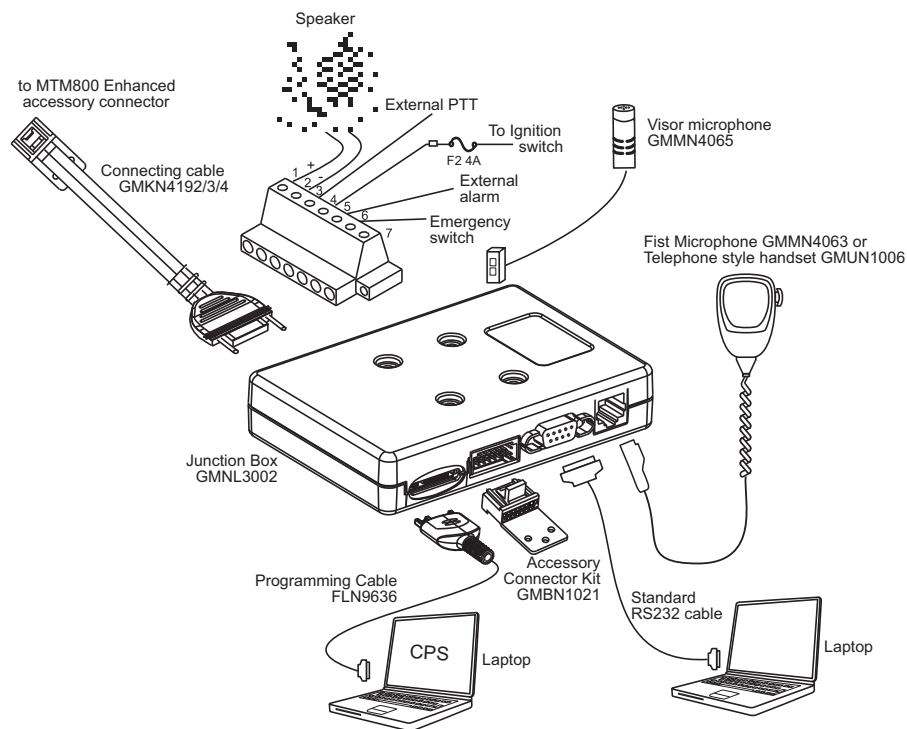

Figure 23 Remote Mount Installation with Junction Box
3. All other devices should be adapted as shown in Figure 23.